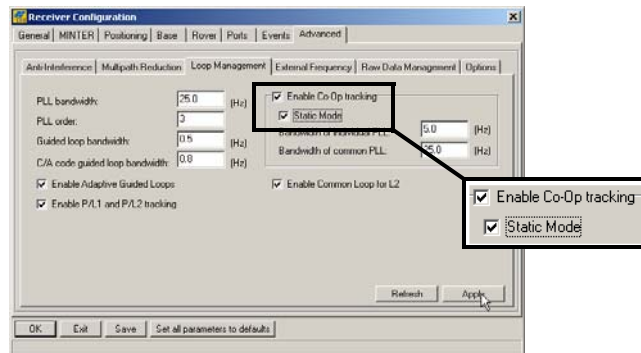

Figure 3-4. Configure Loop Management
4. Click the *Loop Management* tab and set the following parameters, then click **Apply** (Figure 3-4):